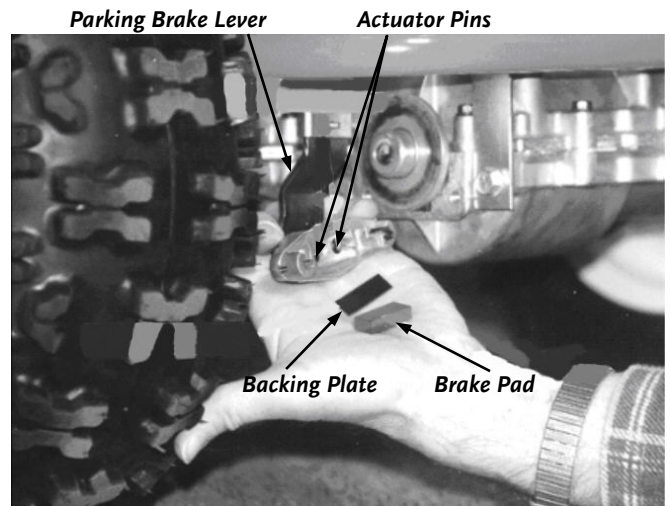

Figure 23
5. Replace the Caliper Housing and its parts: two (2) Actuator Pins, the Backing Plate, and the second Brake Pad (**Figure 23**). Make sure the Brake Arm Assembly is in the upright position and the recessed cutout on the Caliper is facing up with the Plate to the rear. Be sure that the Parking Brake Lever is pointing up (**Figure 21** on page 25). Reinstall the two (2) Caliper Bolts and be careful not to over tighten them.